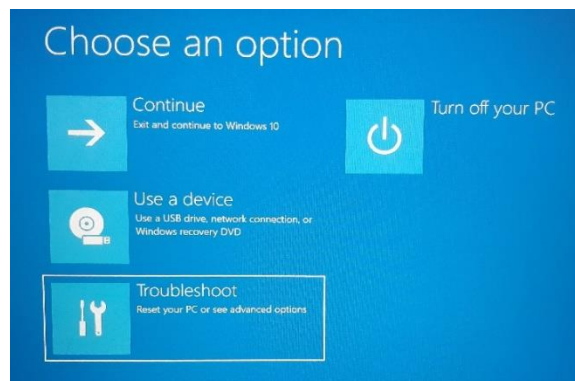

Figure 5.24. Troubleshoot Option
3. When the **Choose an option** screen appears as shown in Figure 5.24, release the Shift key.